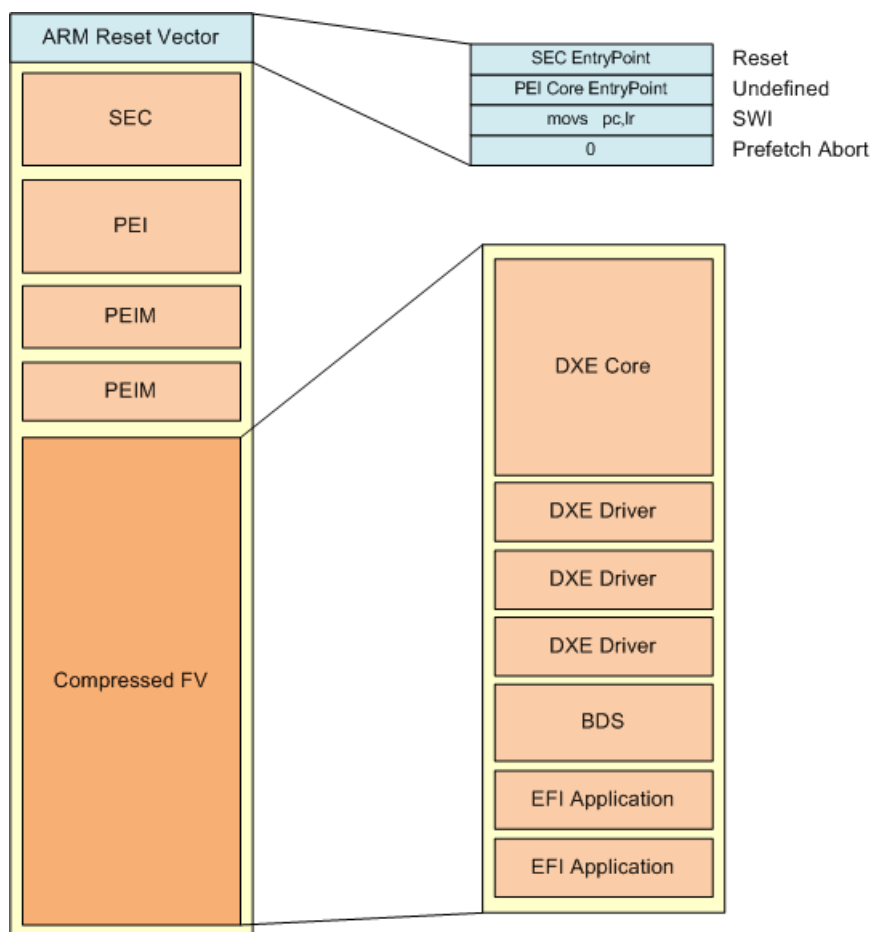

Figure 4 Example of a Firmware Device file
A *Firmware Volume* (FV) as part of a FD file may contain additional compressed FV files. Compressed FV files are used for size or performance reasons. Figure 4 shows the case where the DXE and BDS components (DXE core, DXE drivers, BDS and EFI Applications) are compressed into a single FV file. In this situation the root FV file needs to embed a library to decompress the FV at runtime. A standard or custom decompression library may be used.